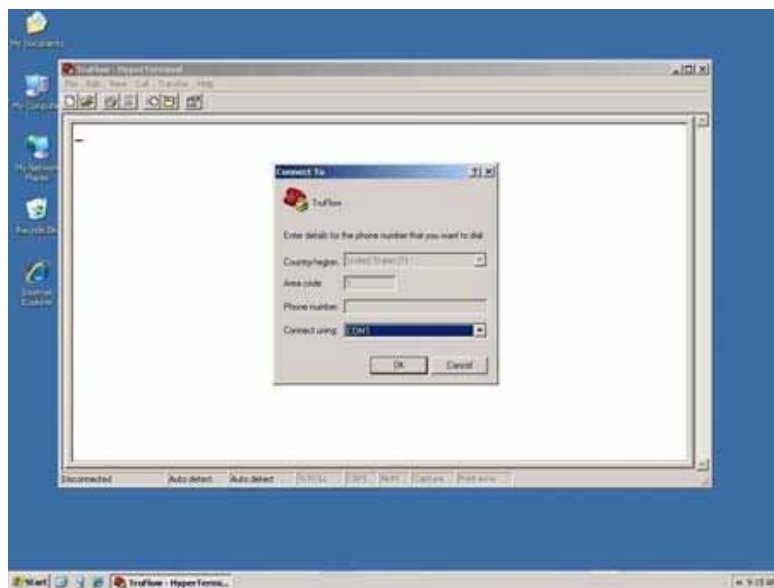

Figure 12 Selecting the COM port
7. See Figure 12. Under the Connect Using drop-down menu, select the appropriate COM port.